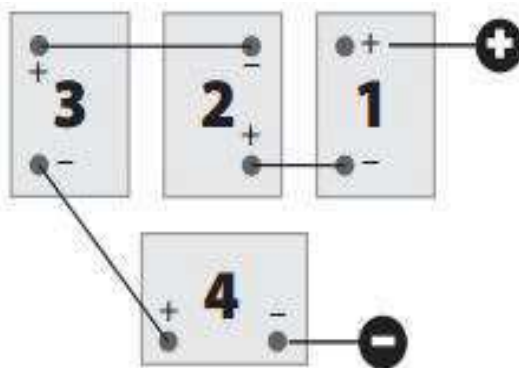

Figure 13
1. Connect the positive wire (RED) to the positive on battery 1. Connect the Negative wire (Black) to the negative on battery 4. Refer to figure 13.